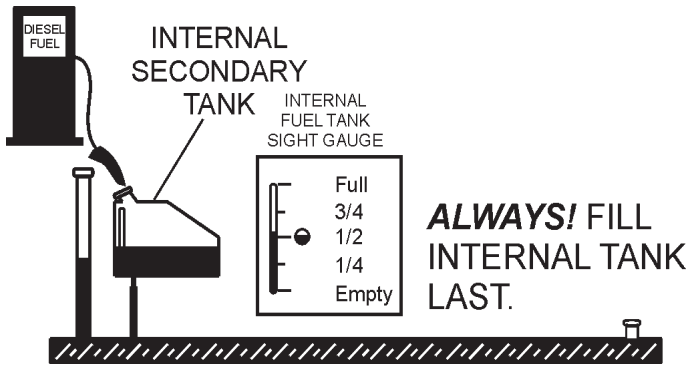

Figure 35. Filling Secondary Internal Fuel Tank
4. Once the trailer tank is full, the **secondary inner tank** can be filled (See Figure 35). Notice how the trailer filler tube level rises when the internal tank is filled.